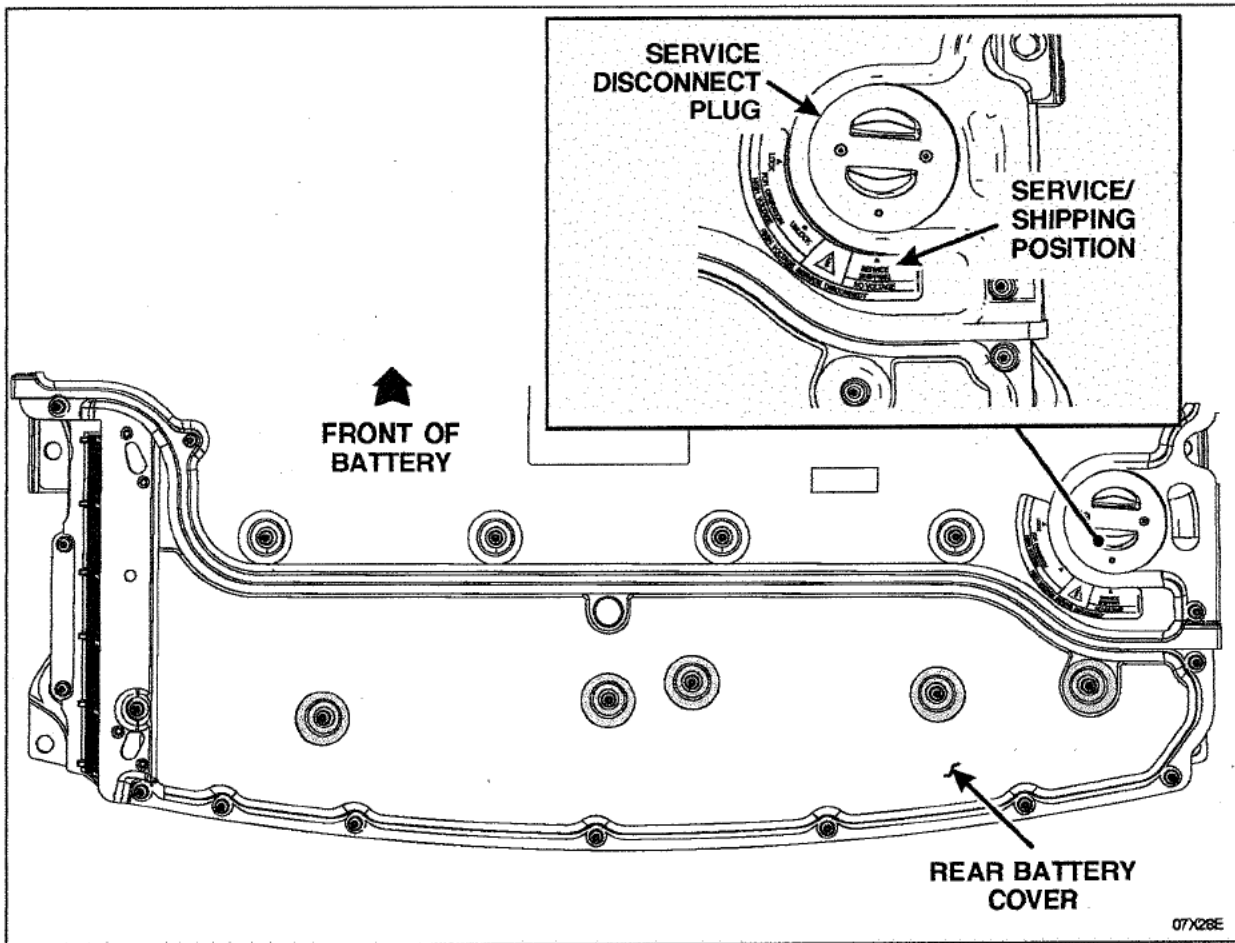

FIGURE 5
5. Remove the 15 Torx screws from the rear battery cover. See Figure 5.
7. Reinstall the service disconnect plug in the SERVICE/SHIPPING position. See Figure 5.